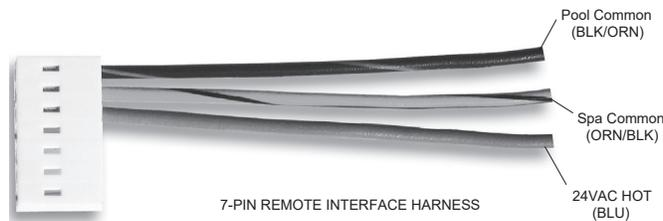

Figure 33. Harness
2. To increase the manifold pressure and increase the ratio of fuel to air turn the adjustment screw counterclockwise (toward the +) (See **Figure 33**). For example, a reading of -2.0" WC (-0.5 kPa) can be increased to -1.5" WC (-0.4 kPa) by turning the adjustment screw counterclockwise. Increasing manifold pressure will increase the CO₂ percentage in the flue gases.